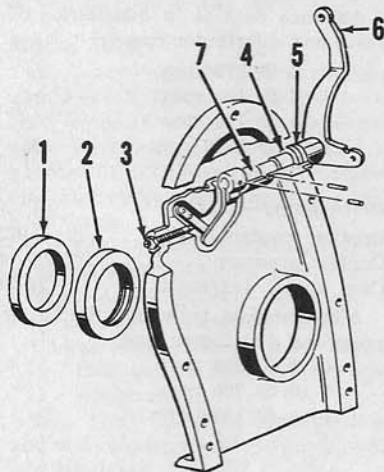

Fig. F21—Timing gear cover, and governor operating lever and fork assembly.
51. R&R AND OVERHAUL. First step in the removal of the governor is to remove timing gear cover as outlined in paragraph 18. The governor operating fork and lever assembly, bearings, and/or oil seal, Fig. F21, located in the timing gear cover can be renewed at this time. On the flyweight type governor as used on TE20, and early production TO20 and some TO30 models, remove four screws retaining weight assembly to camshaft gear.